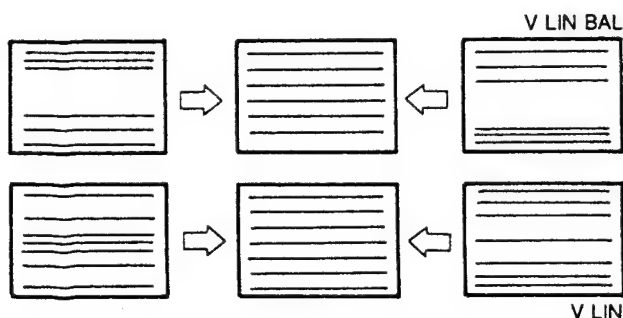

Fig. 1-9.
8. Adjust the V SIZE, V LIN BAL, and V LIN data as shown in Fig. 1-9.